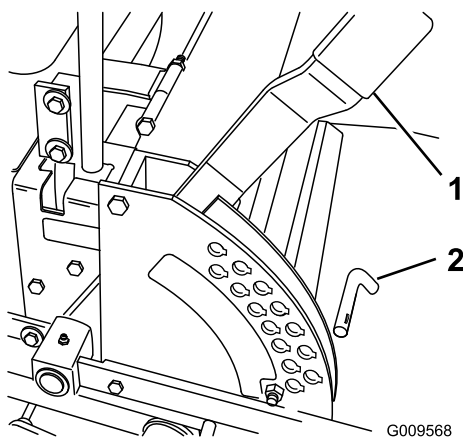

Figure 18
1. Raise the height-of-cut lever to the transport position (also the 4-1/2 inch (114 mm) cutting height position) (Figure 18).
2. To adjust, remove the clevis pin from the height-of-cut bracket (Figure 18).
3. Select a hole in the height-of-cut bracket corresponding to the height-of-cut desired and, insert the clevis pin (Figure 18).